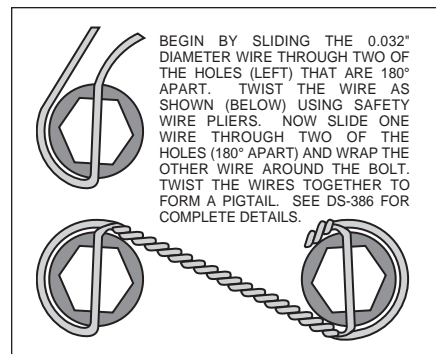

Figure 3. Safety Wire Diagram
- With the larger I.D. side of the rotor (5) facing away from the hat (6), bolt rotor (5) to hat (6) through the backside of the rotor using washers (7) and bolts (8). Using an alternating sequence, apply red *Loctite*® 271 to the threads and torque bolts to 155 in-lb. For an added measure of security, the bolts may be safety wired using standard 0.032 inch diameter stainless steel safety wire as shown in Figure 3. Please refer to Wilwood's data sheet DS-386 (available at [www.wilwood.com/Pdf/DataSheets/ds386.pdf](http://www.wilwood.com/Pdf/DataSheets/ds386.pdf)) for complete safety wire installation instructions.